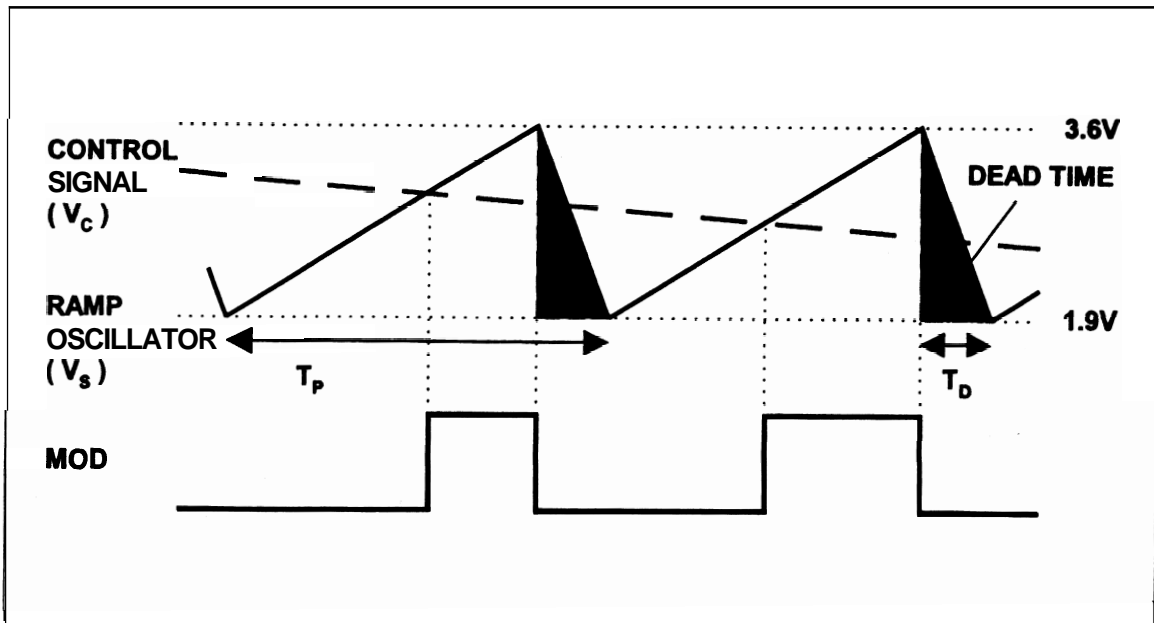

Figure 14. Relationship of MOD output to Sawtooth Waveform Vs and Control Signal Vc
Each PWM loop starts with a comparator whose positive terminal is driven by Vs. The negative terminal is driven by the output of an Operational Transconductance Amplifier (OTA) which, with the compensation network connected to a VCOMP & ICOMP, generates the control signal Vc. The OTA characteristics are: RO = 250k $\Omega$ ; GM = 0.42m-mho; gain bandwidth = 80MHz. The output of each comparator, along with the ramp waveform (Vs), is used to generate a pulse-width modulated waveform at a constant frequency on the MOD output. Figure 14 shows the relationship of MOD with Vc and Vs.
The pulse-width modulated square-wave signal on the MOD pin is synchronized to the internal sawtooth ramp signal. The ramp-down time (TD) is fixed at approximately 20% of the ramp time-period (TP). This limits the maximum duty-cycle achievable to approximately 80%. See Figure 14.